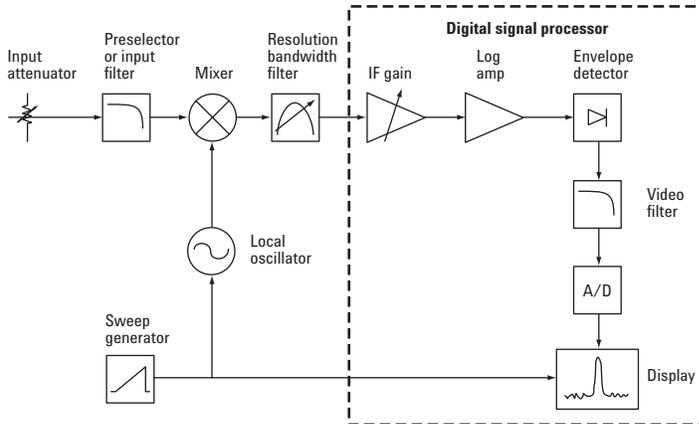
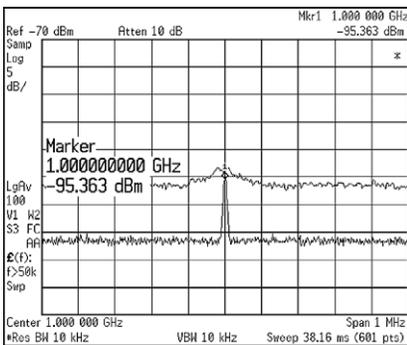

Figure 2. Block diagram of a superheterodyne spectrum analyzer
Figure 3. Displayed measurement of 100 kHz RBW and 10 kHz RBW
Figure 2 depicts a simplified block diagram of a swept-tuned superheterodyne spectrum analyzer. Superheterodyne means to mix or to translate in a frequency above audio frequencies. In the analyzer, a signal at the input travels through an attenuator to limit the amplitude of the signal at the mixer, and then through a low-pass input filter to eliminate undesirable frequencies. Past the input filter, the signal gets mixed with a signal generated by the local oscillator (LO) whose frequency is controlled by a sweep generator. As the frequency of the LO changes, the signals at the output of the mixer, (which include the two original signals, their sums and differences and their harmonics), get filtered by the resolution bandwidth filter (IF filter), and amplified or compressed in the logarithmic scale. A detector then rectifies the signal passing through the IF filter, producing a DC voltage that drives the vertical portion of the display. As the sweep generator sweeps through its frequency range, a trace is drawn across the screen. This trace shows the spectral content of the input signal within the selected frequency range.
When digital technology first became viable, it was used to digitize the video signal, as shown in Figure 2. As digital technology has advanced over the years, the spectrum analyzer has evolved to incorporate digital signal processing (DSP), after the final IF filter as shown by the dotted box, to be able to measure signal formats that are becoming increasingly complex. DSP is performed to provide improved dynamic range, faster sweep speed and better accuracy.
One advantage of using a narrow RBW is seen when making measurements of low-level signals. When using a narrow RBW, the displayed average noise level (DANL) of the spectrum analyzer is lowered, increasing the dynamic range and improving the sensitivity of the spectrum analyzer. In Figure 3, a -95 dBm signal is more properly resolved by changing the RBW from 100 kHz to 10 kHz.
Depending on the use, the modern high-performance spectrum analyzer RBW can be decreased (in fine steps) to meet the necessary sweep speed, sensitivity and/or selectivity. Figure 2 shows a 7.626 s sweep speed for a 10 kHz RBW compared to 26.79 s for a 3 kHz RBW setting shown in Figure 3.